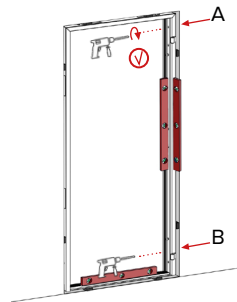

Fig. 16.
3.10. Install the bottom anchor of the frame on the hinge side (B) following Steps 3.5-3.8 (Fig. 16).